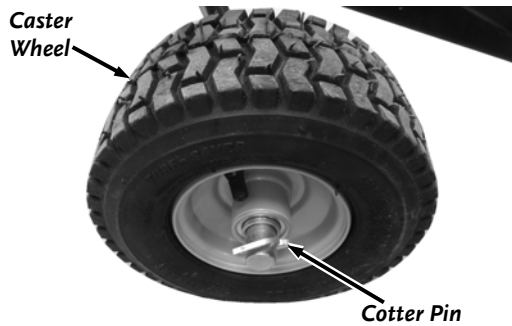

Figure 30
1. Remove the Cotter Pin with Pliers and remove the Caster Wheel Assembly (**Figure 30**).
<p>The Trimmer Head won't spin or lacks power.</p>	<ul style="list-style-type: none"> ⇒ Check for proper alignment of the V-Belt. Check it against Figure 30 in the "Replacing the Belt" section on page 17. ⇒ The Belt may be worn or frayed; if so, replace it. ⇒ If none of the above helps, visit our web site at www.DRPower.com or call 1-800-DR-OWNER (376-9637) for assistance.